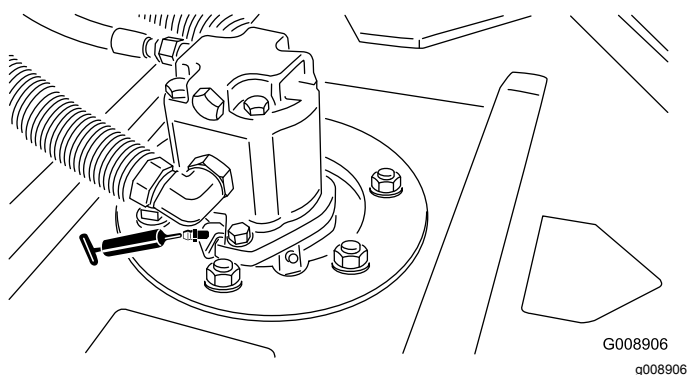

Figure 55
- Cutting unit spindle shaft bearings (2 per cutting unit) (Figure 55)